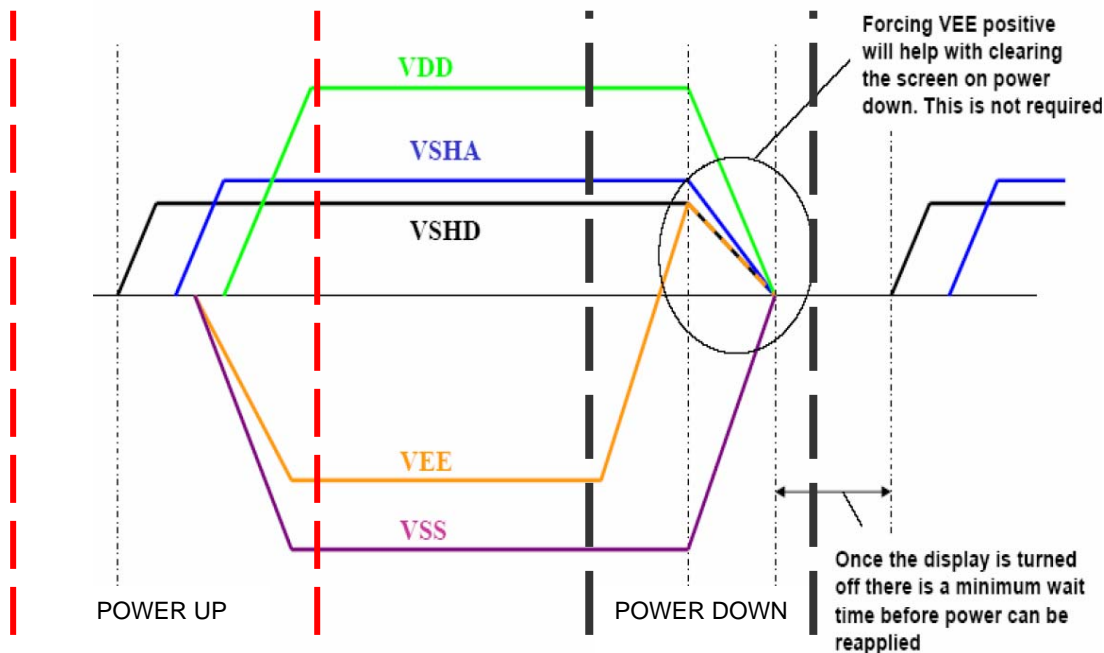

Figure 10: TFT Power Supply Sequence waveform of a typical panel ON-OFF operation cycle
Figure 10 is a typical TFT's power supply sequence during a typical panel ON-OFF operation cycle.
2. Then follow the power sequence as shown in Figure 10.